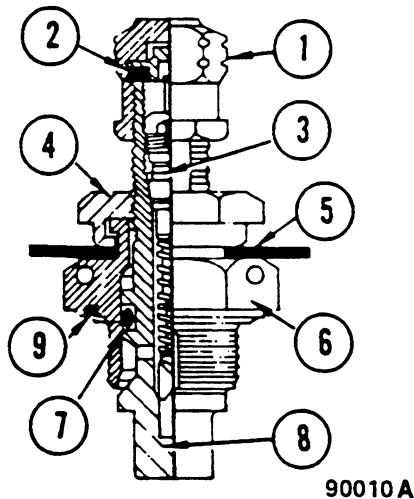

FIGURE 3-1. CHARGING VALVE
1. Remove suspension boot clamp and boot. Remove charging valve cap, (1, Figure 3-1) loosen small hex (4) on charging valve and turn counter-clockwise three full turns to unseat valve seal, connect suspension charging kit. Charge the suspension to be removed with dry nitrogen to fully extend suspension piston. After suspension is charged, disconnect charging kit.